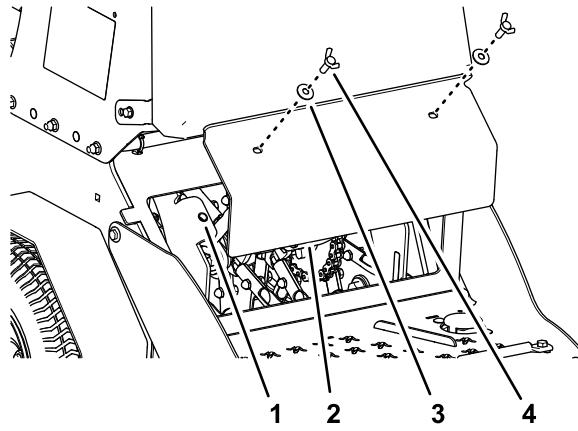

Figure 61
- Remove the 2 thumbscrews (3/8 x 1 inch) and 2 washers (3/8 inch) that secure the rear-cover panel to the chassis, and remove the panel (Figure 61).
- Align the holes in the rear-cover panel to the holes in the chassis (Figure 61).
- Secure the cover panel to the chassis with the 2 thumbscrews and 2 washers (Figure 61) that you removed in step 3, and torque the bolts to 37 to 45 N·m (27 to 33 in-lb)